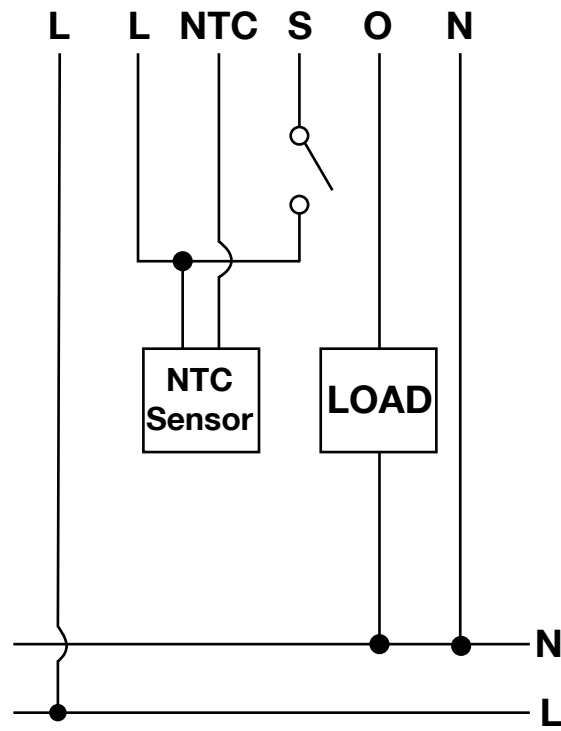

Figure 1: Example connection of High Load-Control
- Connect only according to Figure 1 below.